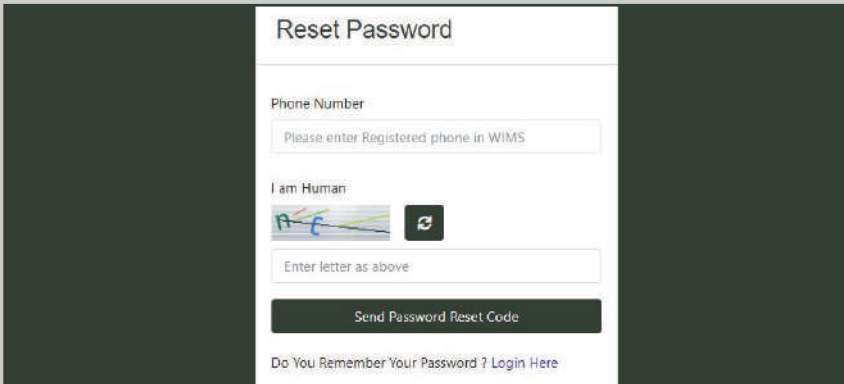

Figure 5: Reset password page for phone number
- iii) Alternatively, in Figure 4, you can select ***‘Use phone number to change password’*** whereas the page that will display is as in Figure 5; and you will be required to enter your mobile number registered in WIMS, then click ***‘Send password Reset Code’***;